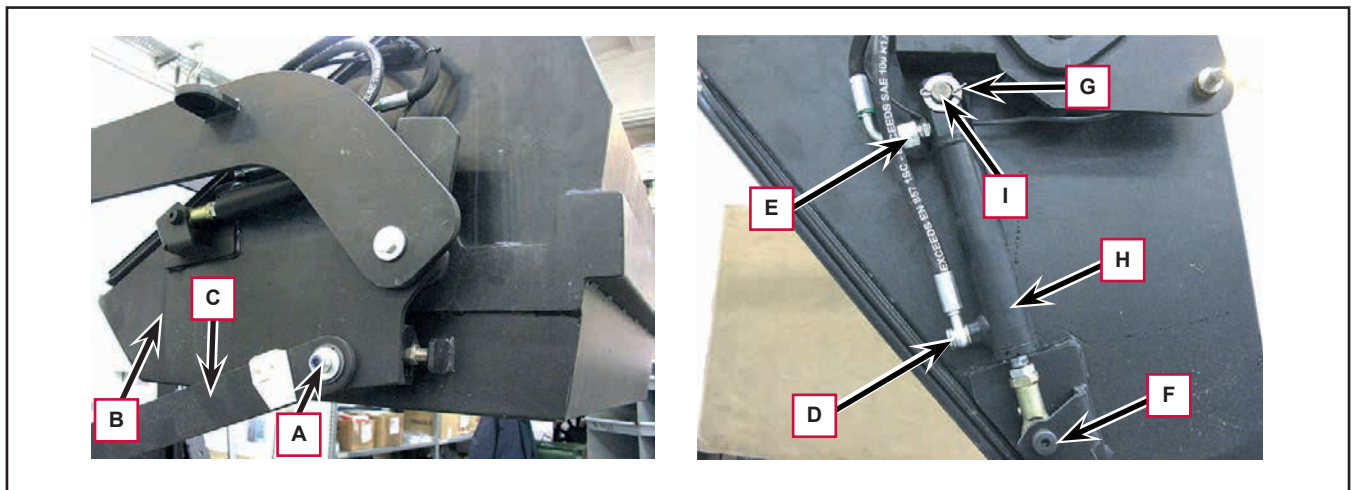

Figure 15
5. Working from the left-hand side of the hopper, unscrew the nut (A, Figure 15) and remove the washer.
6. Supporting the hopper (B), disconnect the rod (C) from the pin, then rotate the hopper downwards.
7. Unscrew the hydraulic cylinder lines (D) and (E), collecting any hydraulic fluid which may come out in a suitable container; immediately plug the disconnected fittings to prevent impurities entering the hydraulic system.